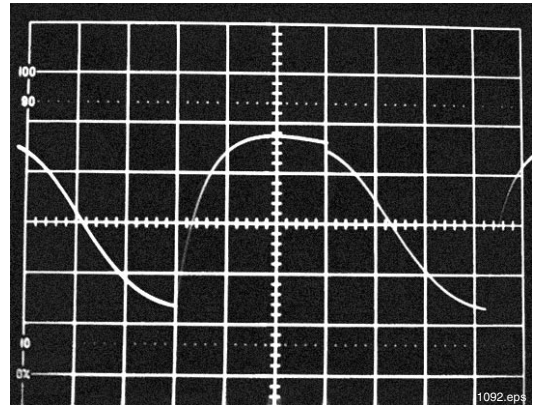

Figure 7.4 Oscilloscope trace showing rise and fall times when a photodiode is used as the detector and penlight as an optical source.
17. Slow the signal generator frequency down to 20 Hz. See **Figure 7.4**.